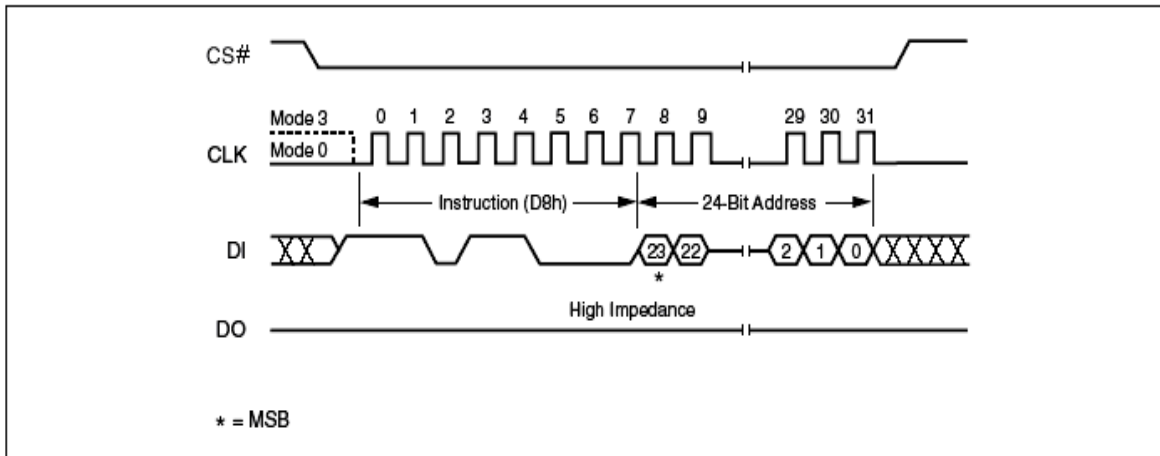

Figure 30. 64K Block Erase Instruction Sequence Diagram
The instruction sequence is shown in Figure 30. Chip Select (CS#) must be driven High after the eighth bit of the last address byte has been latched in, otherwise the Block Erase (BE) instruction is not executed. As soon as Chip Select (CS#) is driven High, the self-timed Block Erase cycle (whose duration is t_{BE}) is initiated. While the Block Erase cycle is in progress, the Status Register may be read to check the value of the Write In Progress (WIP) bit. The Write In Progress (WIP) bit is 1 during the self-timed Block Erase cycle, and is 0 when it is completed. At some unspecified time before the cycle is completed, the Write Enable Latch (WEL) bit is reset.
When used only to obtain the Device ID while not in the power-down state, the instruction is initiated by driving the CS# pin low and shifting the instruction code “ABh” followed by 3-dummy bytes. The Device ID bits are then shifted out on the falling edge of CLK with most significant bit (MSB) first as shown in Figure 30. The Device ID value for the device are listed in Table 6. The Device ID can be read continuously. The instruction is completed by driving CS# high.